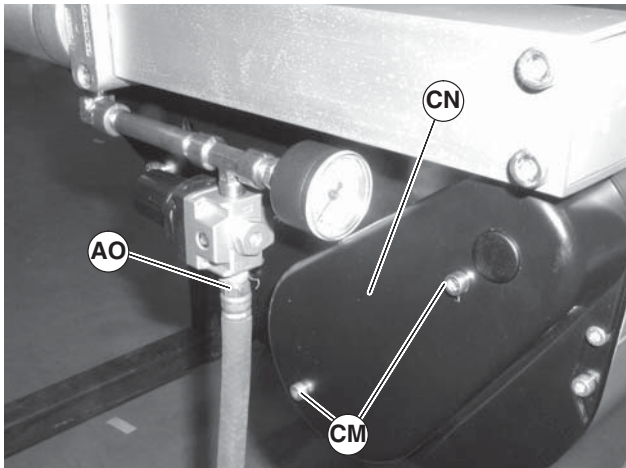

Figure 76
1. Remove air supply and remove hose (Figure 76, item AO) from center drive.
2. Remove screws (Figure 76, item CM) and guard (CN).